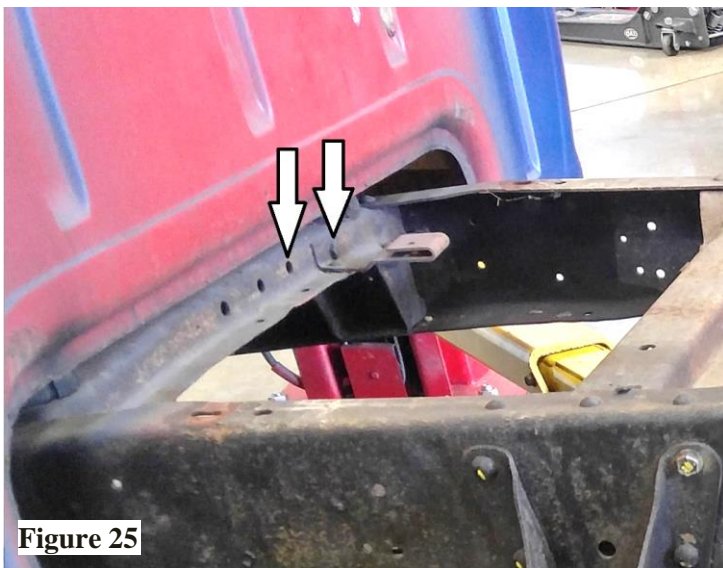

Figure 25
46. Remove rivets from factory e-brake cable support. Use existing holes to mount e-brake pivot bracket (#1). **(Figure 25)**